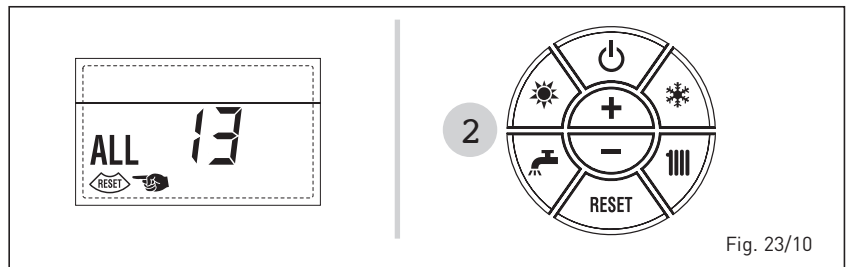

Fig. 23/10
- **"ALL 14" EXHAUST TEMPERATURE SENSOR ERROR (fig. 23/11)**